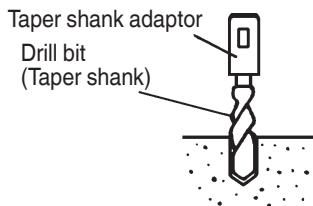

Fig. 14
- (1) Install drill bit with taper shank in the taper shank adaptor. (Fig. 14)